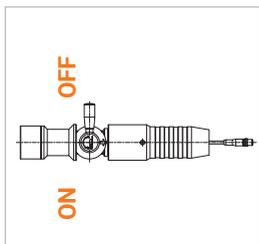

Figure 2
- ▶ Remove the fueling nozzle from the mounting. The actuation lever (Pos. 3) must be in the OFF position (*Figure 2*).